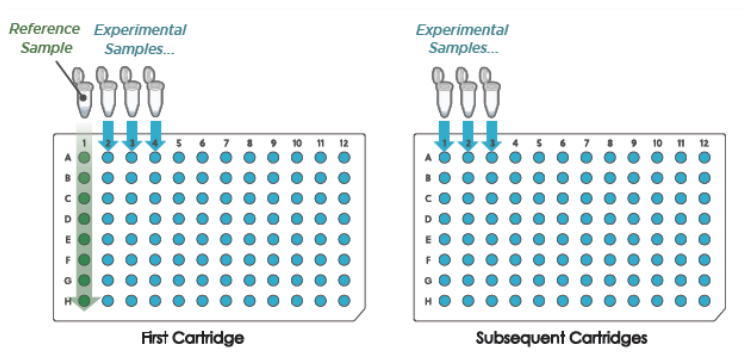
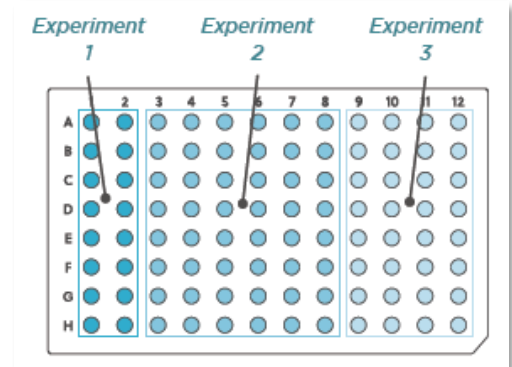
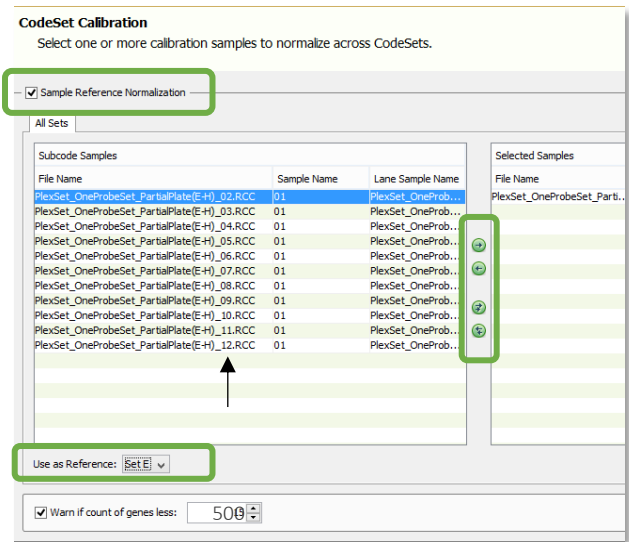

Figure 15: PlexSet layout – full plates
Figure 16: PlexSet samples organized in columns
Figure 27: Reference Calibration window for sample data
- Run all 96 samples on a plate (Figure 15).
A reference sample for calibration is essential for accurate data analysis across PlexSets (Figure 15). The same RLF is used for these scenarios. Reserve lane 1 of the first plate for your Calibration Sample. Subsequent PlexSet cartridges using the same lot of probe sets will not need an additional reference sample lane (Figure 15). With our current nSolver data analysis software, your experiments should be organized down columns (Figure 16).
Select the **Sample Reference Normalization** checkbox to activate the options in the window. Select the lane in which you loaded your reference sample in the *Subcode Samples* window (on the left). In most setup configurations, this is lane 1 (lanes are listed at the end of the file name – see arrow in Figure 27). Use the arrows to move the desired lane to the *Selected Samples* window (on the right of "Subcode Samples" window). Select one of the rows in which your PlexSet was loaded in the **Use as Reference** dropdown at the bottom of the window. The default is *Set A*; if running a partial plate in rows E-H (as in Cartridge 2 of Figure 16, above), you must change this default to *Set E, F, G, or H*. **The selection is arbitrary, as long as you choose a Set that was run.**